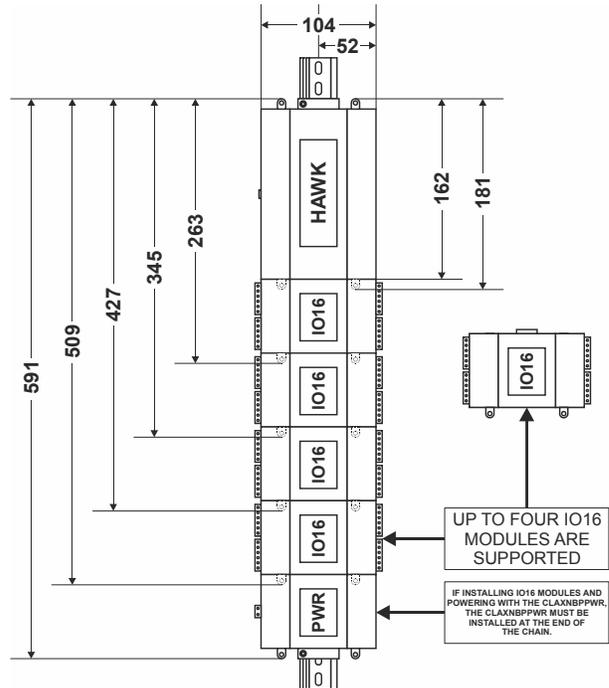

Fig. 3. Mounting dimensions
- **Plug-on modules:** To "chain" onto the HAWK's 20-pin connector. See Fig. 3 and section "Plug-On Modules".